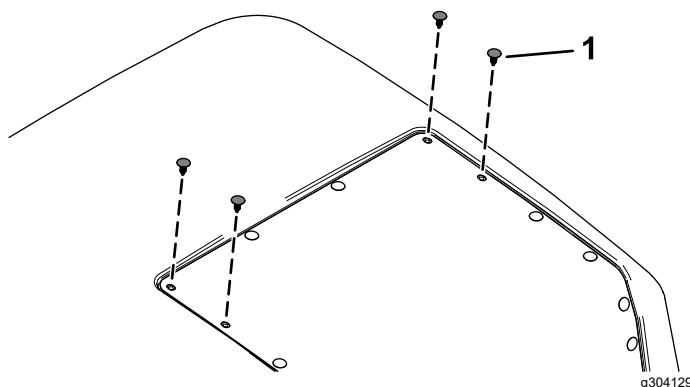

Figure 28
7. Remove the 4 plastic plugs shown in Figure 28 from the hood.